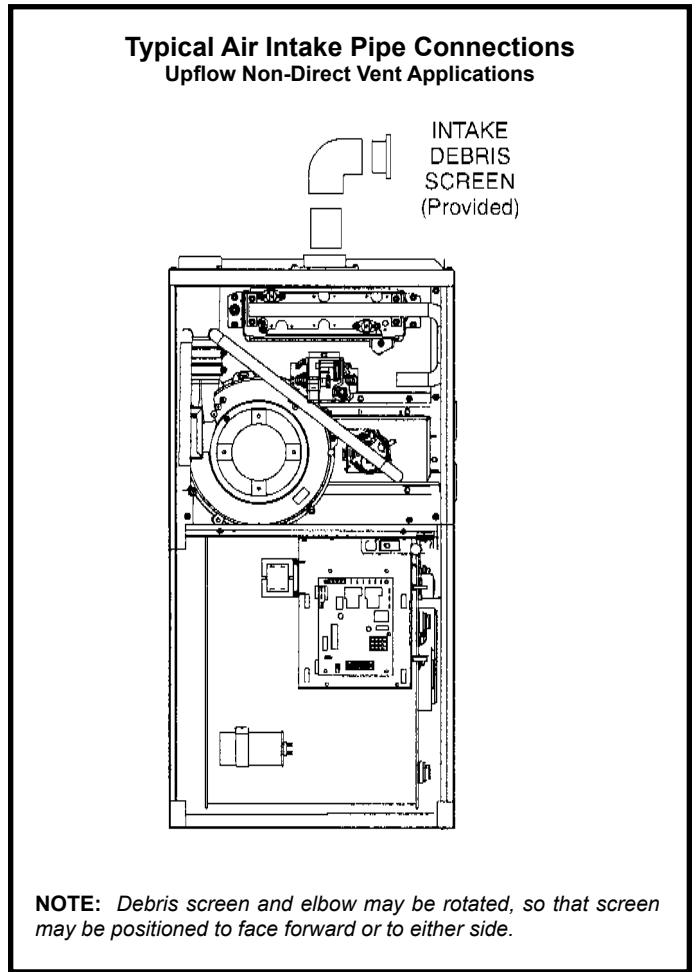

Figure 27
1. Use field-provided materials and the factory-provided air intake screen to route the intake piping as shown in Figures 27 or 28. Maintain a minimum clearance of 3" (76 mm) around the air intake opening. The air intake opening (with the protective screen) should always be directed forward or to either side in the upflow position, and either straight out or downward in the horizontal position.